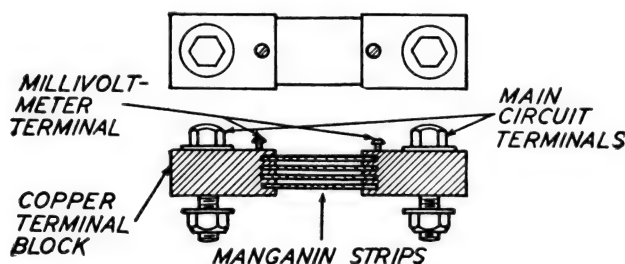

Fig. 23. Construction of a Shunt
**Construction of Ammeter Shunts.** The shunt is usually made of manganin strip brazed to comparatively heavy copper blocks, as shown in Fig. 23. Two sets of terminals are fastened to the copper blocks. The heavy terminals are for carrying the main current through the shunt. The small terminals are used to connect the ammeter leads. The heavy copper blocks serve two purposes. They are excellent conductors of heat, so carry the heat away from